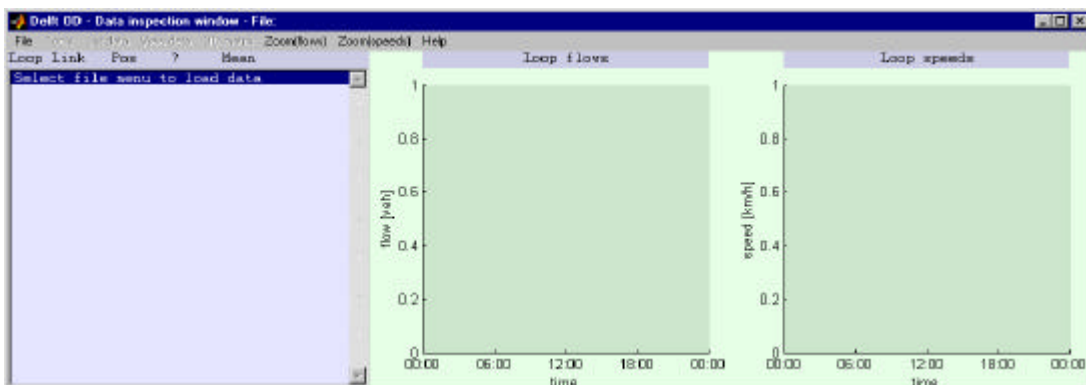

Figure 2: *Main window of the DelftOD software visible after activating the program.*
- ◆ The main window will now be visible (Figure 2).